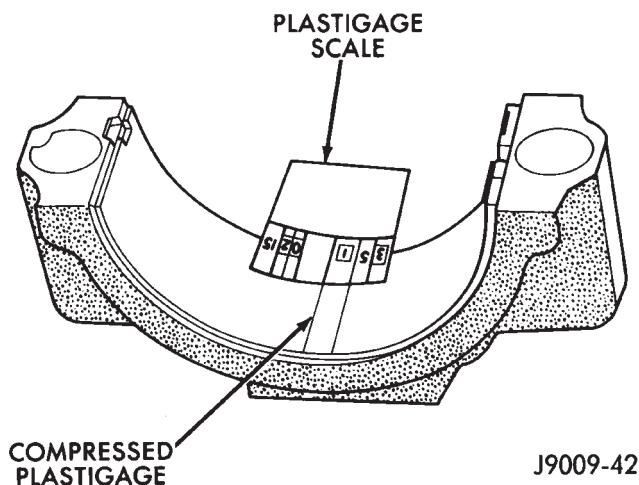

Fig. 15 Measuring Bearing Clearance with Plastigage
(5) Install the lower bearing insert in the bearing cap. The lower insert must be dry. Place strip of Plastigage across full width of the lower insert at the center of bearing cap. Plastigage must not crumble in use. If brittle, obtain fresh stock.
(6) Install bearing cap and connecting rod on the journal and tighten nuts to 45 N•m (33 ft. lbs.) torque. **DO NOT** rotate crankshaft. Plastigage will smear, resulting in inaccurate indication.
(7) Remove the bearing cap and determine amount of bearing-to-journal clearance by measuring the width of compressed Plastigage (Fig. 15). Refer to Engine Specifications for the proper clearance. **Plastigage should indicate the same clearance across the entire width of the insert. If the clearance varies, it may be caused by either a tapered journal, bent connecting rod or foreign material trapped between the insert and cap or rod.**